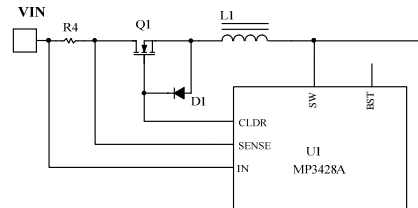

Figure 4: Gate Protection Diode for High Output Voltage Condition
4. Gate-to-source voltage rating. The positive gate-to-source voltage rating should be higher than 5.5V while the negative voltage rating should be higher than the value of the output voltage. If the output voltage is too high and the MOSFET gate-to-source rating cannot meet the requirement, a diode from the source to the gate of the disconnecting MOSFET is recommended (see Figure 4).